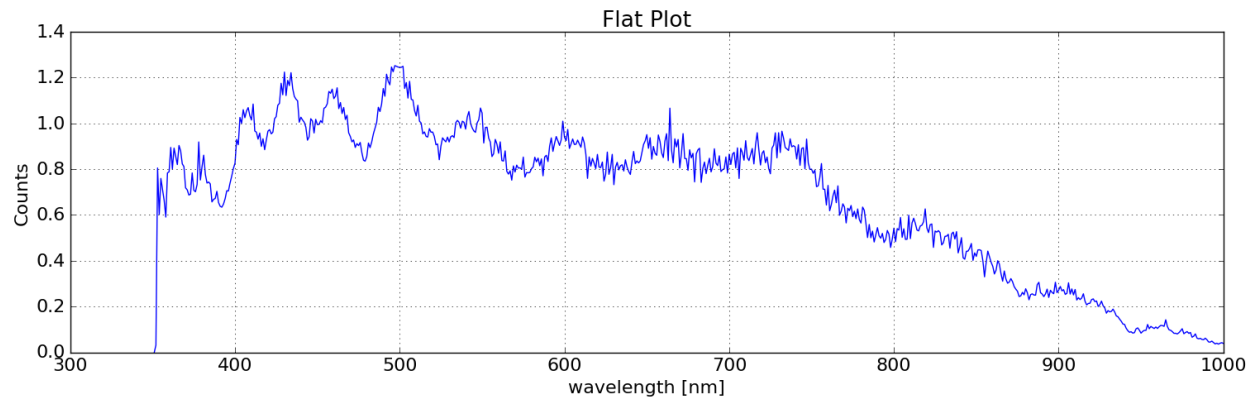

Figure 3: Flat field produced using given quartz calibration files
1. Using the given quartz calibration information, the flat field image is calculated (see Appendix, Fig. 3).